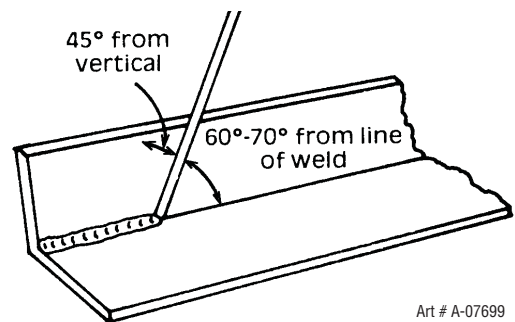
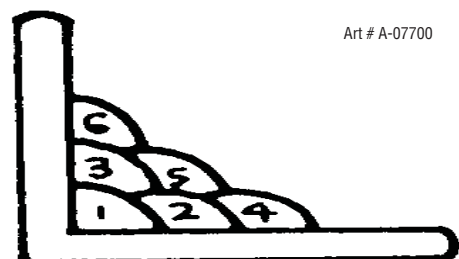

Figure 4-14: Electrode position for HV fillet weld
Figure 4-15: Multi-runs in HV fillet weld
A piece of angle iron is a suitable specimen with which to begin, or two lengths of strip steel may be tacked together at right angles. Using a 3.2mm Ferrocrafter 21 electrode at 100 amps, position angle iron with one leg horizontal and the other vertical. This is known as a horizontal-vertical (HV) fillet. Strike the arc and immediately bring the electrode to a position perpendicular to the line of the fillet and about 45° from the vertical. Some electrodes require to be sloped about 20° away from the perpendicular position to prevent slag from running ahead of the weld. Refer to Figure 4-14. Do not attempt to build up much larger than 6.4mm width with a 3.2mm electrode, otherwise the weld metal tends to sag towards the base, and undercut forms on the vertical leg. Multi-runs can be made as shown in Figure 4-15. Weaving in HV fillet welds is undesirable.